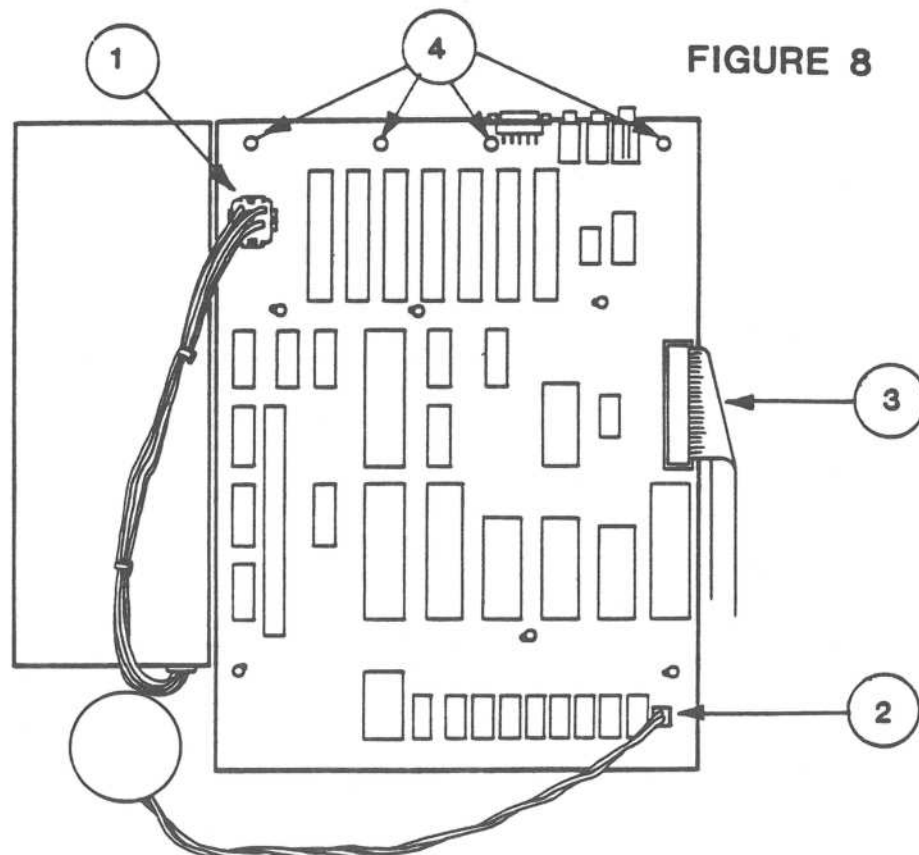

FIGURE 8
2. Pinch the left and right sides of the power supply plug and pull the plug from the top of the motherboard. (See Figure 8, #1).
3. Unplug the speaker connector. (See Figure 8, #2).
4. Remove the keyboard cable. (See Figure 8, #3).
5. Remove the four screws across the back of the motherboard. (See Figure 8, #4).